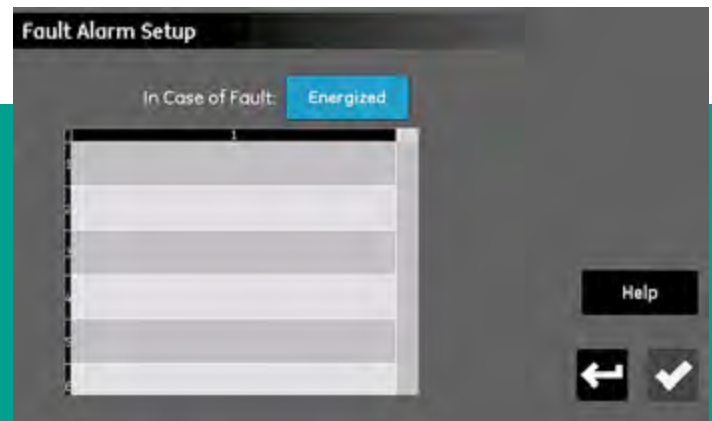

Figure 40: The fault alarm setup screen
The *fault alarm setup* menu (see figure 40 below) allows you to specify how the moisture.IQ dedicated fault alarm relay responds to a fault condition and it lists the source of any current fault conditions.
- Tap the **in case of fault** button to toggle between the **energized** and **deenergized** options. This selection determines whether the relay is **energized** or **deenergized** (fail-safe operation) when a fault condition is detected. The source of a fault is displayed in the fault list in figure 40 above.